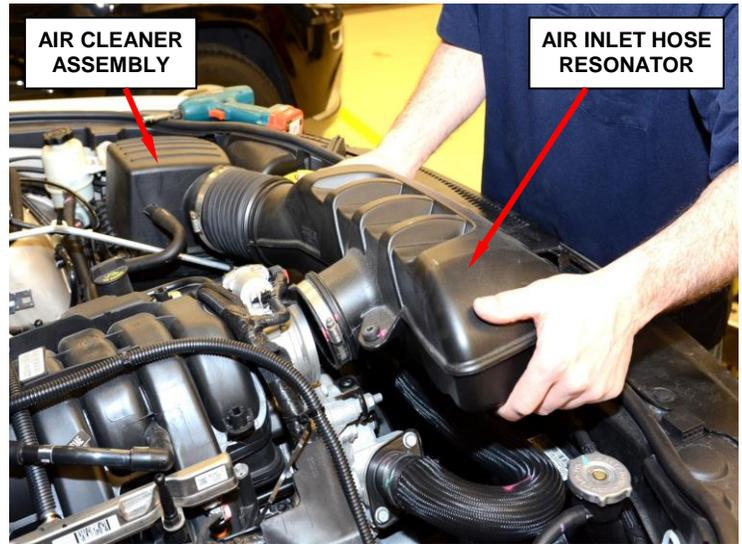

Figure 2 – Intake Air Resonator
4. **For vehicles with a 5.7L engine**, remove and save the air inlet hose resonator (Figure 2).
5. Remove and save the air cleaner assembly (Figure 2).
35. **For vehicles with a 5.7L engine**, install the air inlet hose resonator (Figure 2).